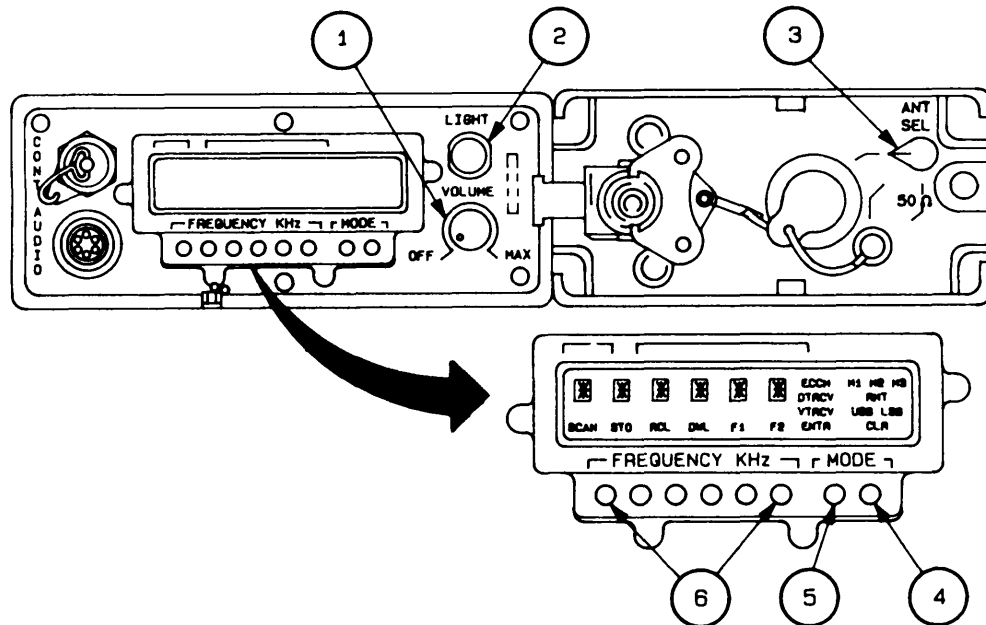

Figure 4-2. Preoperational Check
**PREOPERATIONAL CHECK (1 of 3), fig 4-2**